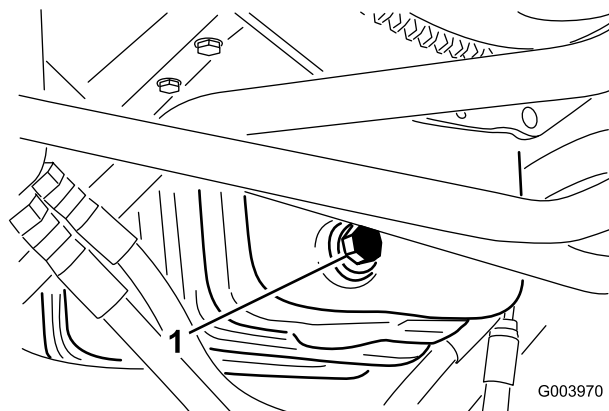

Figure 48
1. Remove the drain plug (Figure 48) and let the oil flow into a drain pan.